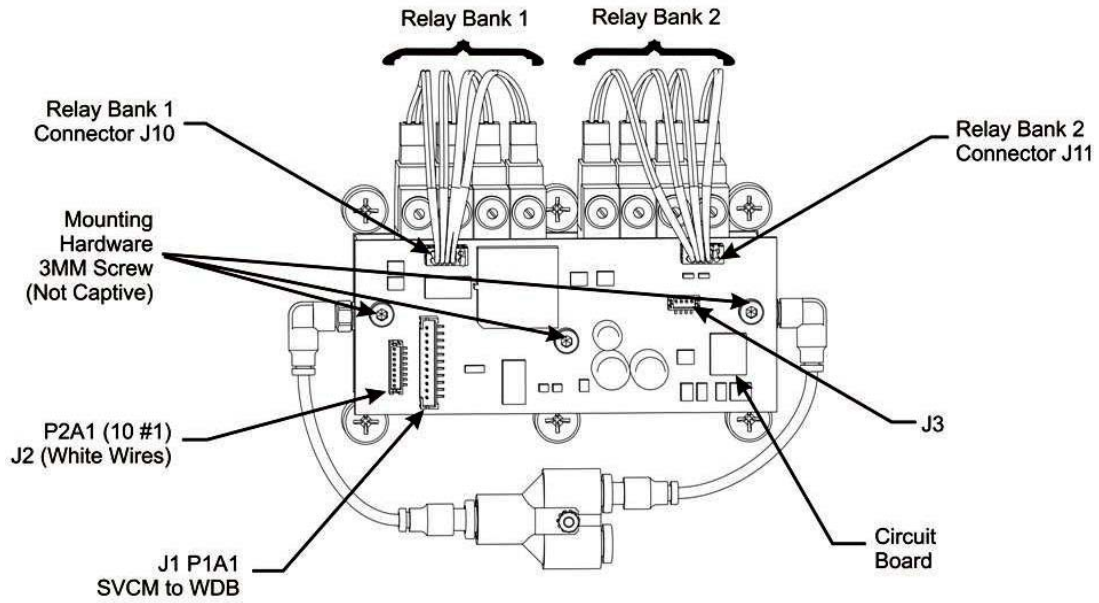

Figure 4-15: Old SVCM Installation and Removal Diagram
2.	Disconnect both solenoid cables J10 and J11 connected to circuit board. Also disconnect J1, J2 and J3. Refer to Figure 4-15.